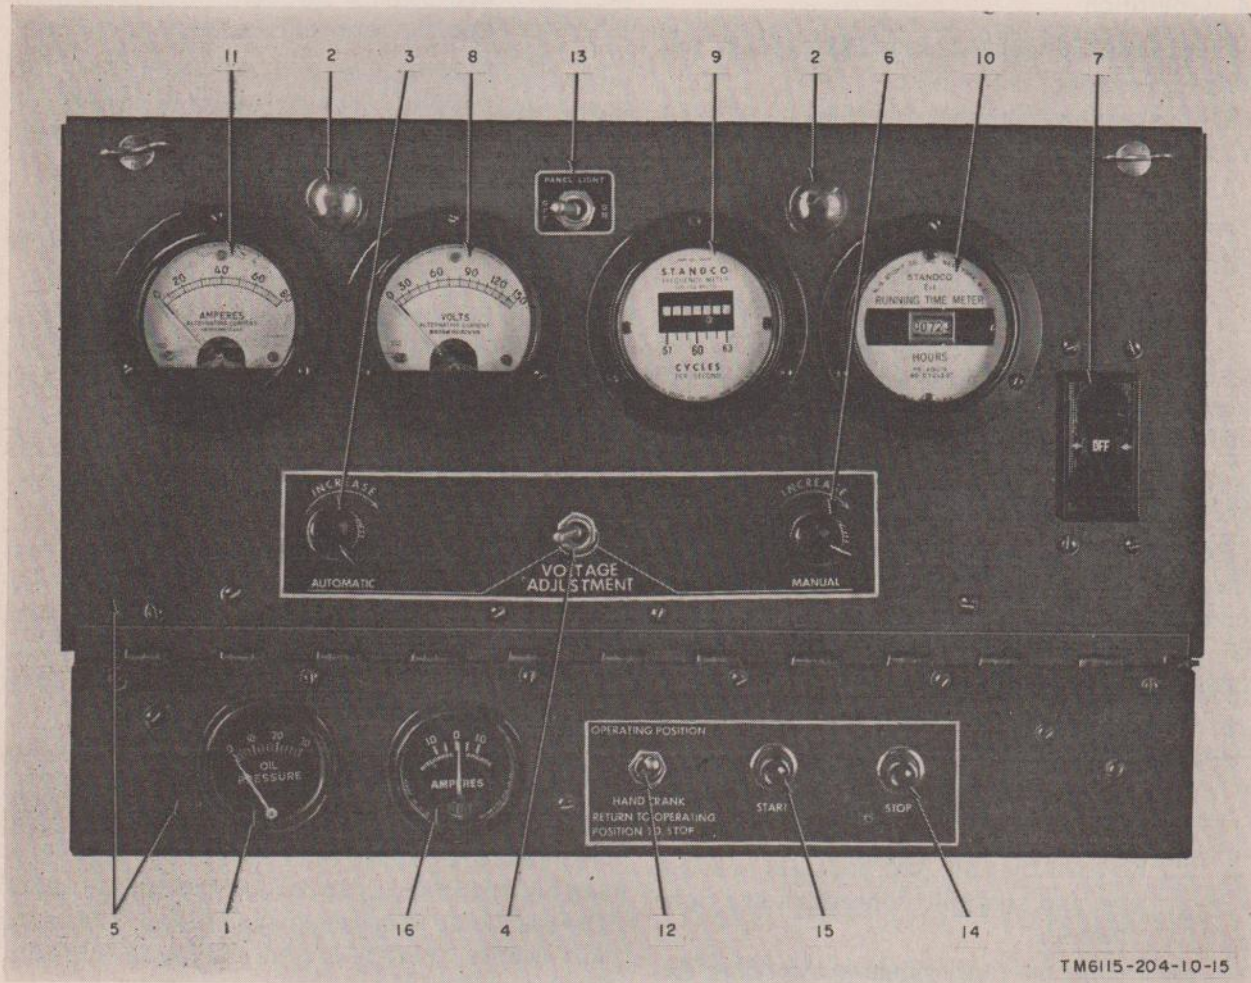

Figure 10. Generator set PU-286A/G, instrument and control panel.
19. Voltage Regulator Adjustment, PU-286A/G (fig. 10)